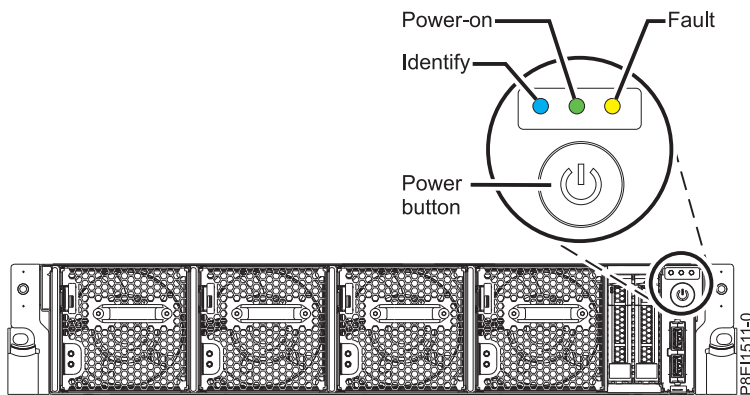

Figure 107. Power button
- The Power-on LED, as shown in Figure 107, is flashing. A flashing light indicates standby power to the unit.
3. Press the power button shown in Figure 107. The power-on light stops flashing and remains on, indicating that the system power is on. The system cooling fans are operate at a high speed, and after approximately 30 seconds, return to operating speed.